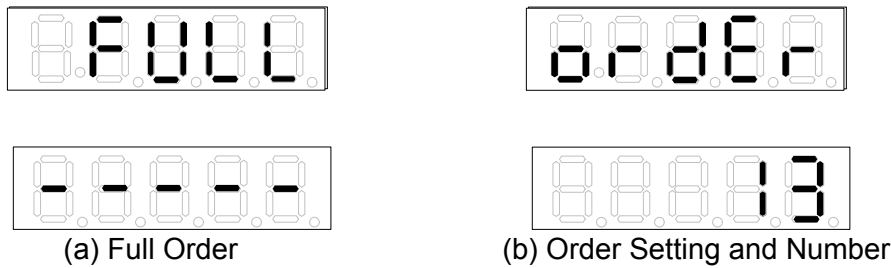

Figure 4-24 Setting THD Order
3. Use \uparrow , \downarrow to select Order and press **Enter/Trig** to go to Step 4 for setting the desired total harmonic level, or select FULL and then press **Enter/Trig** to save the settings and exit the function setting display as Figure 4-24 (a) and (b) shows.